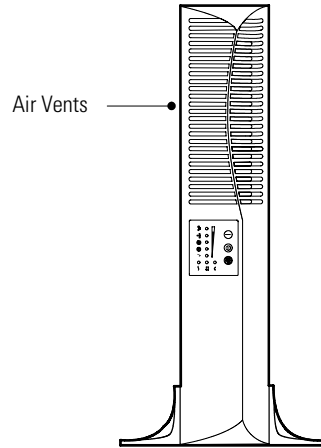

Figure 7. UPS with Pedestals
4. Carefully position the cabinet upright with the air vents at the top (see Figure 7).